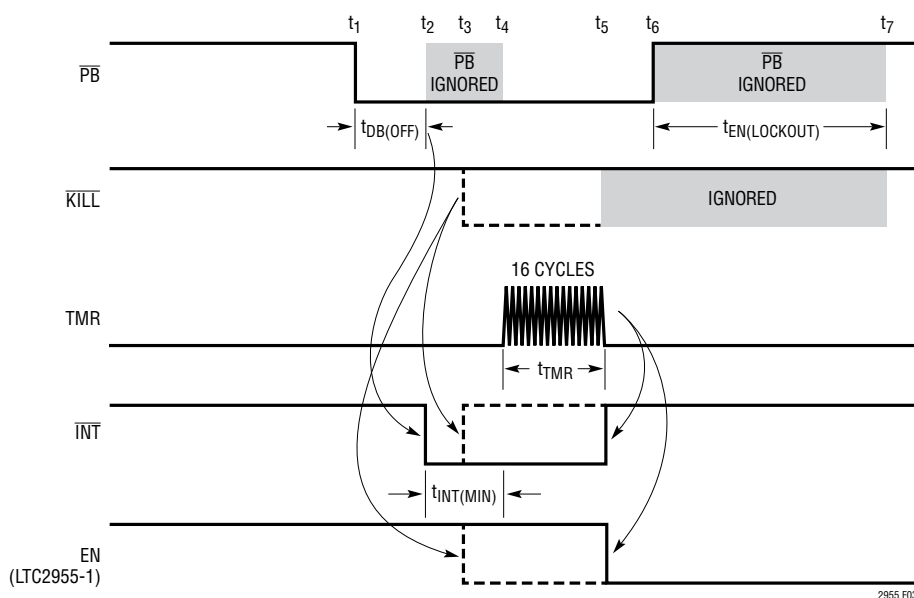
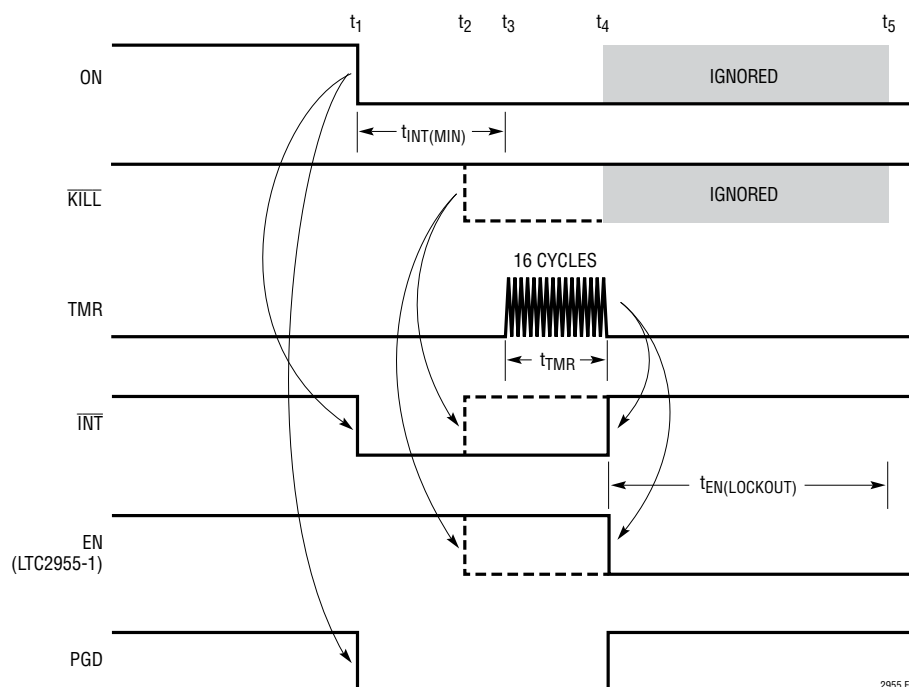

Figure 3. Pushbutton Turn-Off Timing
Figure 5. ON Pin Turn-Off Timing (DFN Only, $V_{SEL} > 1.2V$ and the Preceding Turn-On Sequence Was Initiated by the ON Pin Rising Edge)
Figure 3 shows the turn-off sequence of the LTC2955-1 initiated through the $\overline{\text{PB}}$ pin. A turn-off sequence refers to the LTC2955-1 releasing the EN output. This turns off the voltage regulator.
A high to low transition on $\overline{\text{PB}}$ (t_1) starts the turn-off sequence. In order to assert $\overline{\text{INT}}$ (interrupt output) low, $\overline{\text{PB}}$ must stay low continuously for 32ms ($t_{\text{DB}(\text{OFF})}$). At the end of the 32ms (t_2), the $\overline{\text{INT}}$ pin is asserted low and will stay low for at least 32ms ($t_{\text{INT}(\text{MIN})}$), even if the $\overline{\text{PB}}$ pin goes high during this period (t_2 to t_4). When the μP receives this interrupt signal, it should start to perform its power-down functions and assert $\overline{\text{KILL}}$ low (t_3) once it is done. The LTC2955-1 will then release $\overline{\text{INT}}$ and pull EN low, thus turning off the system power, as shown with dotted lines in Figure 3.
high). This can be done by holding the pushbutton down for a long period ($> t_{DB(OFF)} + t_{INT(MIN)} + t_{TMR}$) as shown with the solid lines in Figure 3. If the \overline{PB} pin remains low at the end of the 32ms minimum \overline{INT} pulse width ($t_{INT(MIN)}$), the external timer will start counting (t_4).
After the EN output goes low and the \overline{PB} pin goes high, the LTC2955-1 starts the one second lockout time ($t_{EN(LOCKOUT)}$). During this lockout time (t_6 to t_7 in Figure 3)
Figure 5 shows the turn-off sequence of the LTC2955-1 initiated by the ON pin. The timing sequence is slightly different from that by the pushbutton as there is no debounce time ($t_{DB(OFF)}$) before the \overline{INT} pin pulls low. The ON pin falling edge can start the turn-off sequence only if the following two conditions are met: (1) The preceding turn-on sequence was initiated by the ON pin rising edge, and (2) The SEL pin must be tied high ($>0.8V$). For TS8 package, the ON pin falling edge is ignored.
In Figure 5, a high to low transition at ON (t_1) starts the turn-off sequence. The interrupt output (\overline{INT}) is asserted immediately when the ON pin goes low. Unlike the \overline{PB} pin turn-off sequence, there is no 32ms debounce time ($t_{DB(OFF)}$) for the ON pin going low. This allows the system to initiate a shutdown as soon as the monitored supply is removed and allows the μP the maximum amount of time
to perform power-down functions. The \overline{INT} pin will stay low for at least 32ms ($t_{INT(MIN)}$). When the μP receives this interrupt signal, it should start to perform its power-down functions and assert the \overline{KILL} input low (t_2) once it is done. The LTC2955-1 will then release the EN and \overline{INT} outputs, thus turning off the system power, as shown with dotted lines in Figure 5.
If the μP fails to respond (\overline{KILL} pin remains high, as shown with solid line in Figure 5) and the ON pin remains low 32ms after \overline{INT} goes low, the external timer will start counting for 16 cycles (t_{TMR} , t_3 to t_4). If the ON pin remains low at the end of the 16 cycles (t_4), the LTC2955-1 will force the EN pin low and the \overline{INT} pin high. See Applications Information for adjusting t_{TMR} .
The LTC2955 allows the user to force the system power to turn off if the μP fails to respond during fault conditions. As shown by the solid lines in Figure 3 and Figure 5, when the μP fails to bring the $\overline{\text{KILL}}$ pin low after the interrupt signal is asserted, the user can force a turn-off by holding down the pushbutton. The length of time that $\overline{\text{PB}}$ must be held low is given by a fixed 64ms delay ($t_{\text{DB(OFF)}} + t_{\text{INT(MIN)}}$) plus an adjustable power-down timer delay (t_{TMR}). The adjustable delay is set by placing an optional external capacitor on the TMR pin. Use the following equation to calculate the capacitance for the desired delay. C_{TMR} is the external capacitor at the TMR pin: